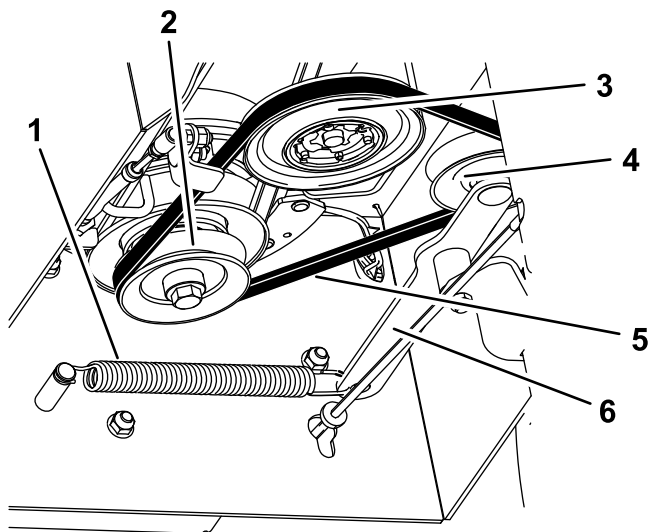

Figure 32
4. Remove the extension spring from the tension arm (Figure 32).
6. Wrap the new transmission belt around the clutch, transmission, and tension pulleys (Figure 32).